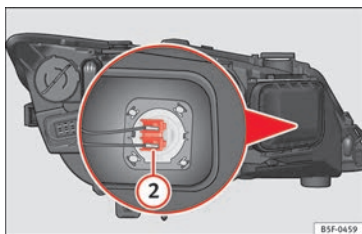

Fig. 108 Main beam headlight bulb.
- Slide connector » **Fig. 108** ② to the left or right and pull.